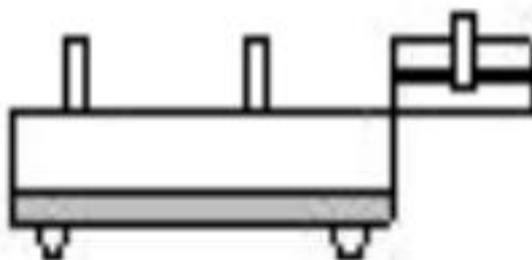

Fig.4-7
(3) Solid sample injector (Fig.4-7)